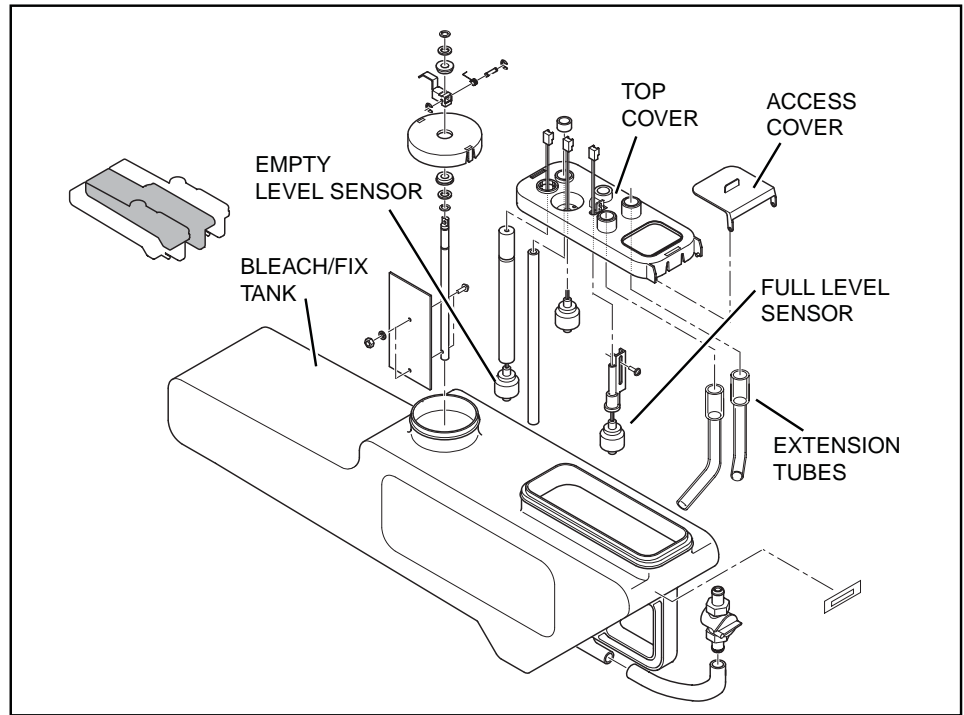

Figure 1: Image/schematic of bleach fix and bleach/fix replenisher tank
PROCEDURE: Two extension tubes (Figure 1) will be installed in the bleach/fix replenisher tank. The bleach/fix replenisher tank is the middle of the three replenisher tanks. A checklist and detailed step-by-step instructions are given below. Be sure the tubes are positioned toward the outside of the tank so that they do not interfere with the float on the empty level sensor or the full level sensor (Figure 1).
2. The tubes have one end wider than the other. The wide end attaches to the fittings on the bottom side of the top cover. Although not shown in Figure 1, there are also plastic clamps to secure the tubes.